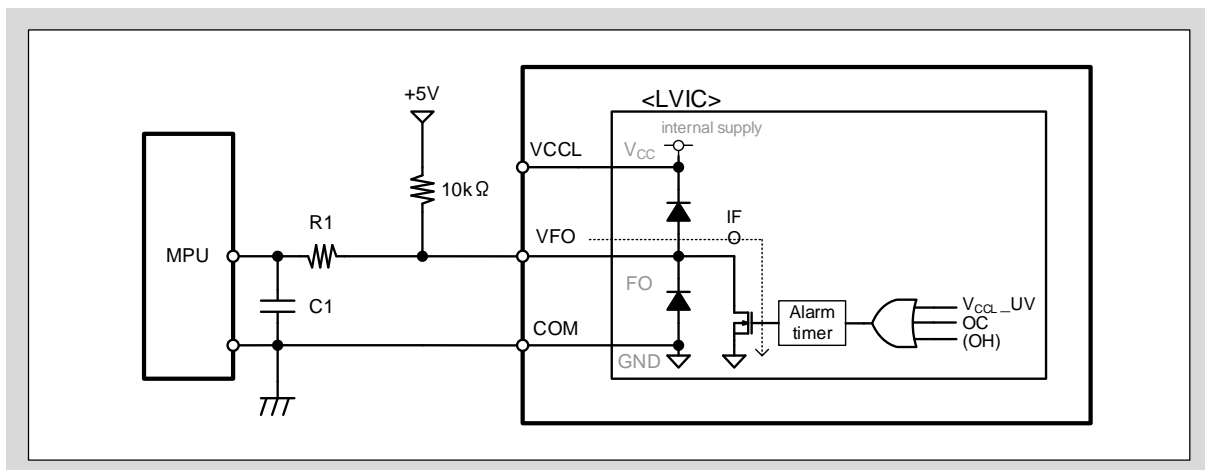
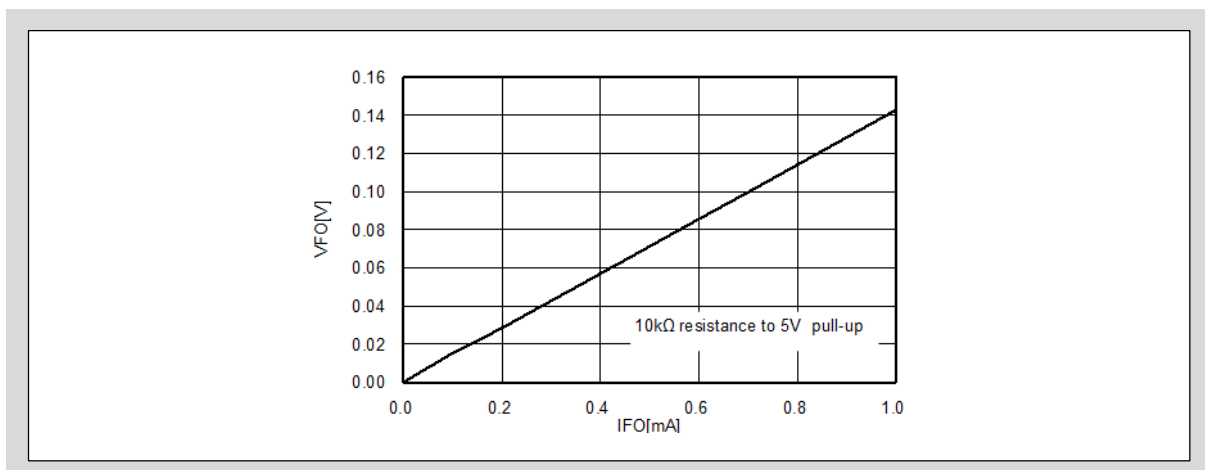

Fig.3-21 Recommended MPU I/O Interface Circuit of VFO terminal
Fig.3-22 Voltage-current Characteristics of VFO terminal at the fault state condition
- As shown in Fig.3-21, it is possible to connect the fault status output VFO terminal directly to the MPU. VFO terminal is open drain configured, thus this terminal should be pulled up by a resistor of approximate 10kΩ to the positive side of the 5V or 3.3V external logic power supply, which is the same as the input signals. It is also recommended that the by-pass capacitor C1 should be connected at the MPU, and the inrush current limitation resistance R1, which is more than 5kΩ, should be connected between the MPU and the VFO terminal. These signal lines should be wired as short as possible.
- Fig.3-21 shows that the diodes in the IPM are electrically connected to the VCCL-VFO and VCCL-COM terminals. Do not use these diodes for voltage clamp purpose otherwise the product might be damaged.
- Fig.3-22 shows the Voltage-current characteristics of VFO terminal at fault state condition. The I_{FO} is the sink current of the VFO terminal as shown in Fig.3-21.